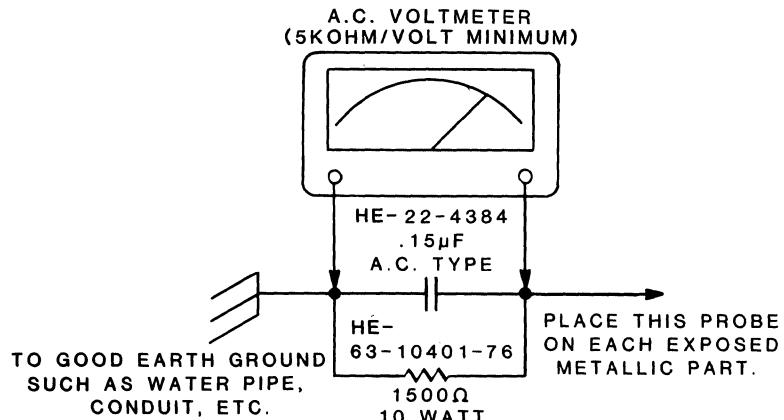

Figure 4
1. Connect the test circuit as shown in Figure 4.